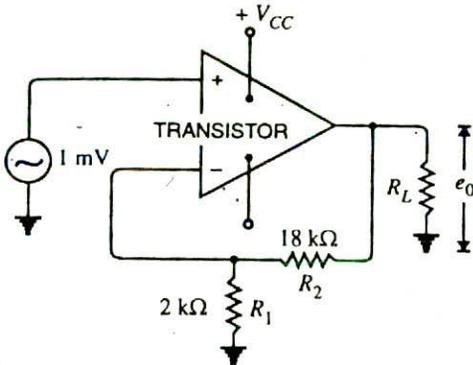

Fig. 15.8
**Example 15.8.** Fig. 15.8 shows the negative voltage feedback amplifier. If the gain of the amplifier without feedback is 10,000, find :